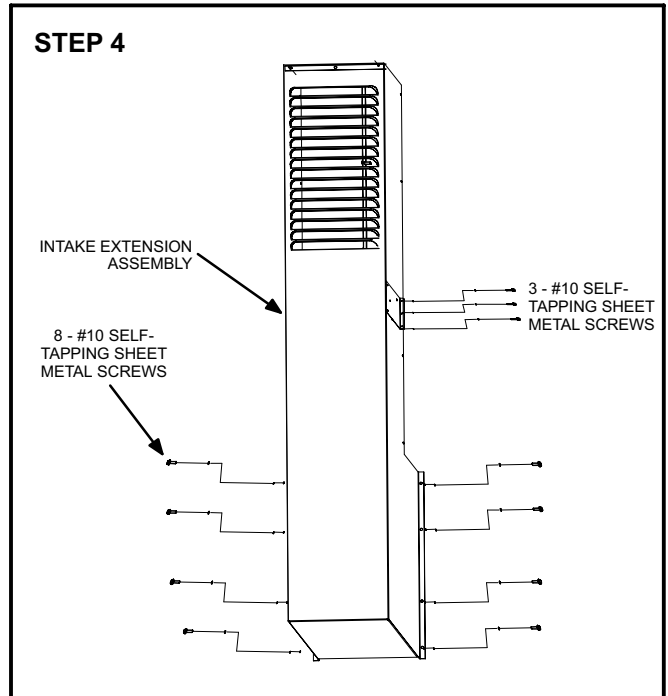

Figure 4. Securing Intake Extension Assembly to the SG120
Step 4. Secure the intake extension assembly using the 11 - #10 self-tapping screws provided as illustrated in figure 4.